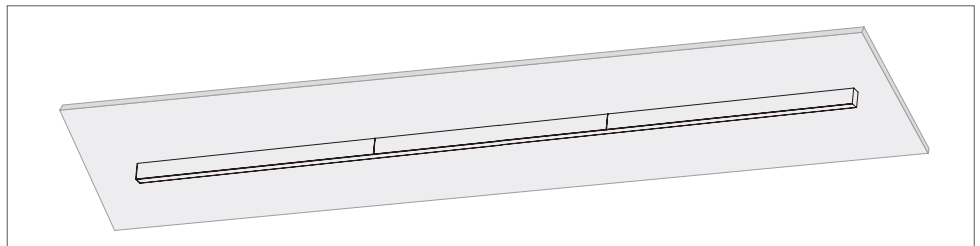

FIGURE 6-8
- 9) Installation is complete. (Figure 6-8)